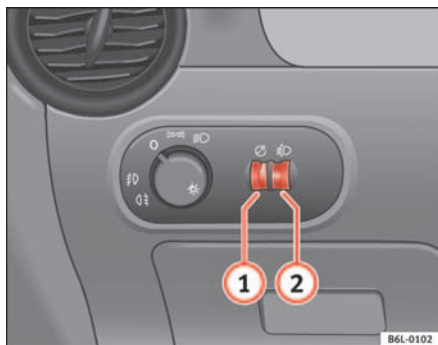

Fig. 57 Detail of the dash panel: Regulation for instrument and switch illumination and headlight range control
When the headlights are switched on, the brightness of the instruments and switch lighting can be regulated to suit your requirements by turning the thumb wheel ⇒ fig. 57 ①.